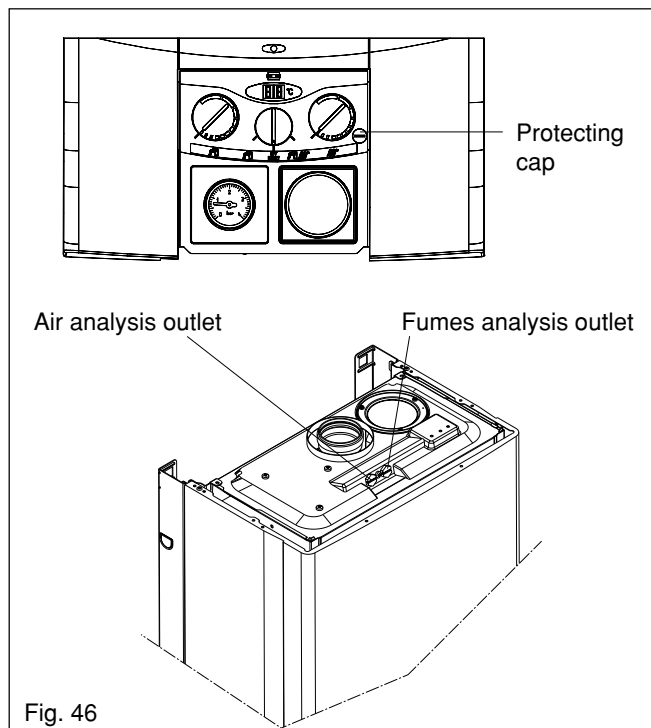

Fig. 46
- Insert the flue gas analyser probe into the right hand test point (see fig 46).
- Locate and remove the protective cap that conceals the 'CO mode' butto (see fig. 46).